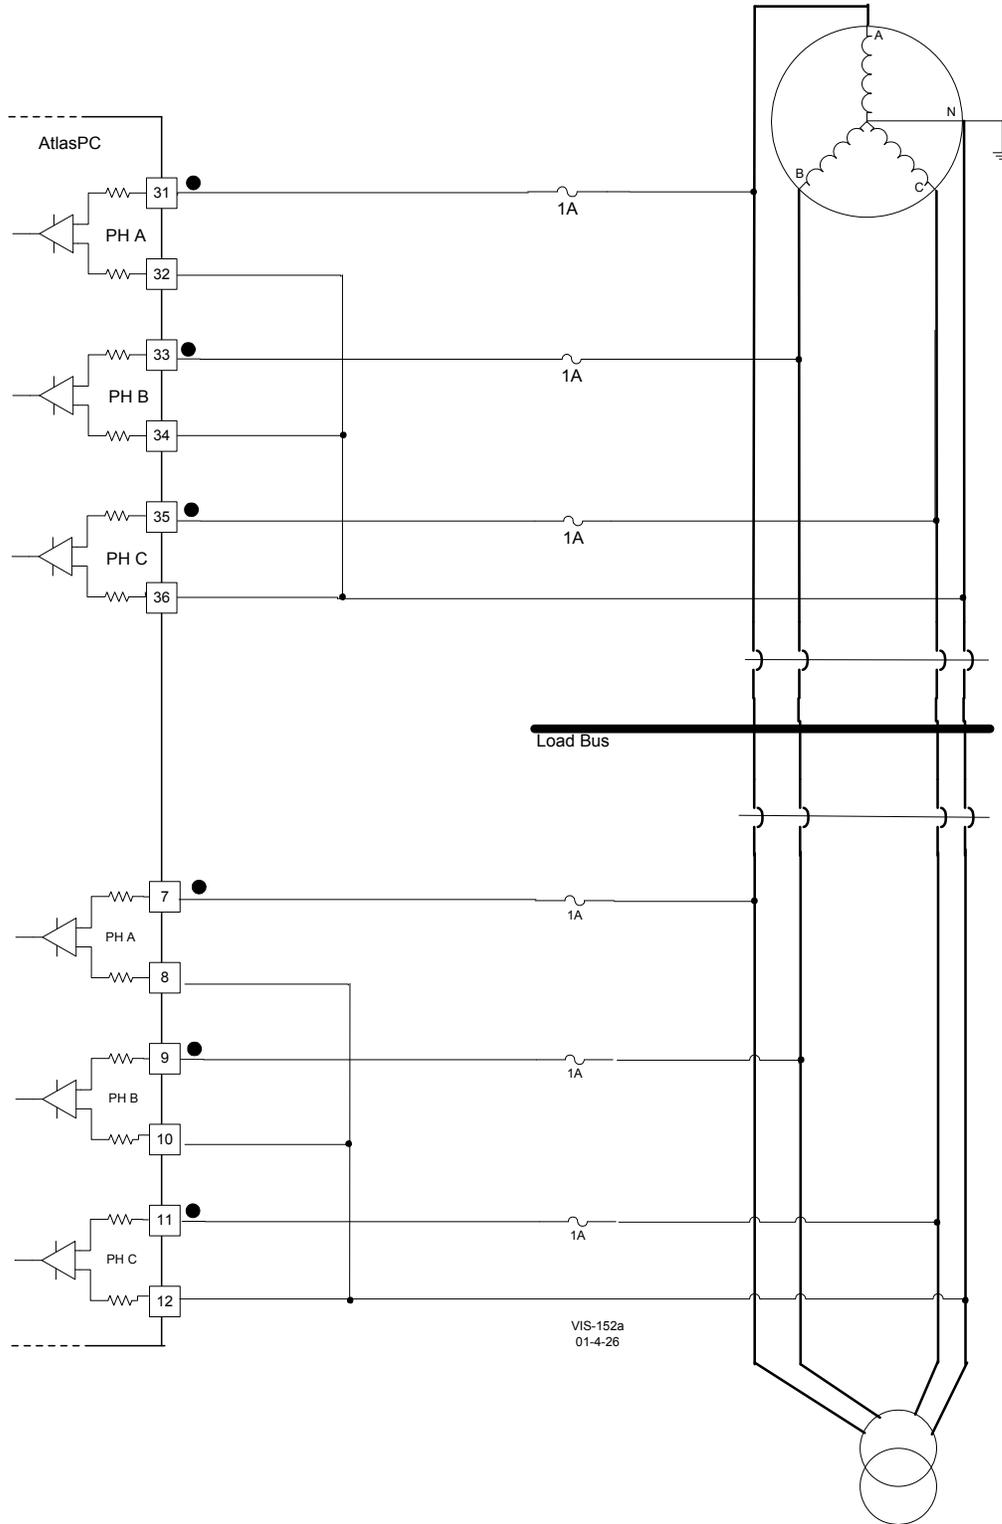

Figure 6-3. Wye Connected System
- Refer to Figures 6-3 through 6-7 for PT wiring.